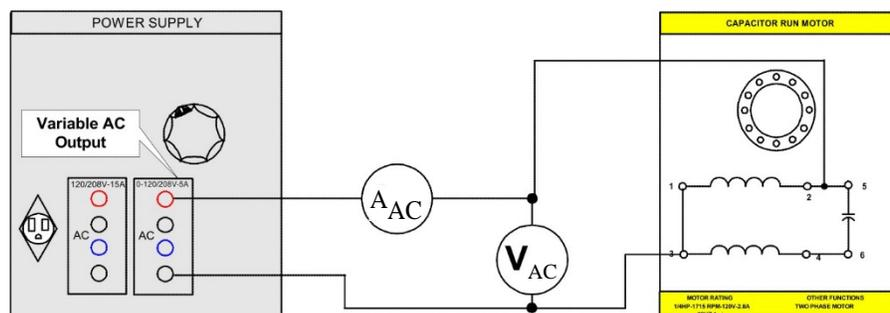

FIGURE 8.16
Step 5: Using your EMS Capacitor Run Motor, Power Supply, Data Acquisition Interface (DAI) modules in the EMS workstation and Electrodynamometer, connect the circuit shown in Figure 8.16.